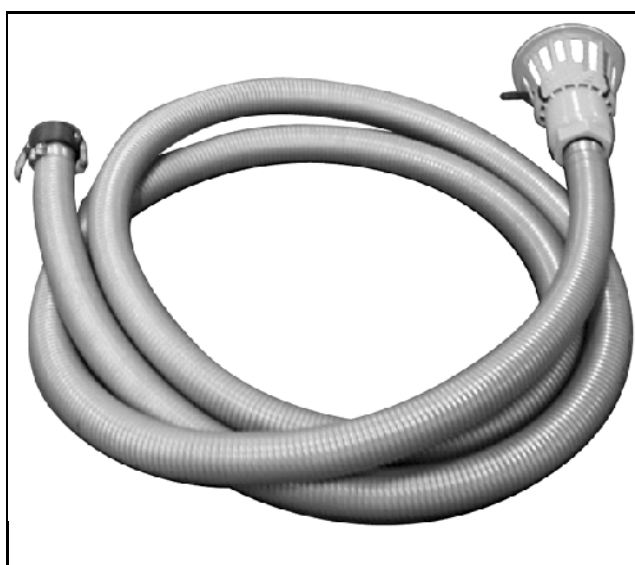

Fig. 10.5
- 2 - Tuyau d'aspiration 3" (8m), code: 924459 (fig. 10.5)